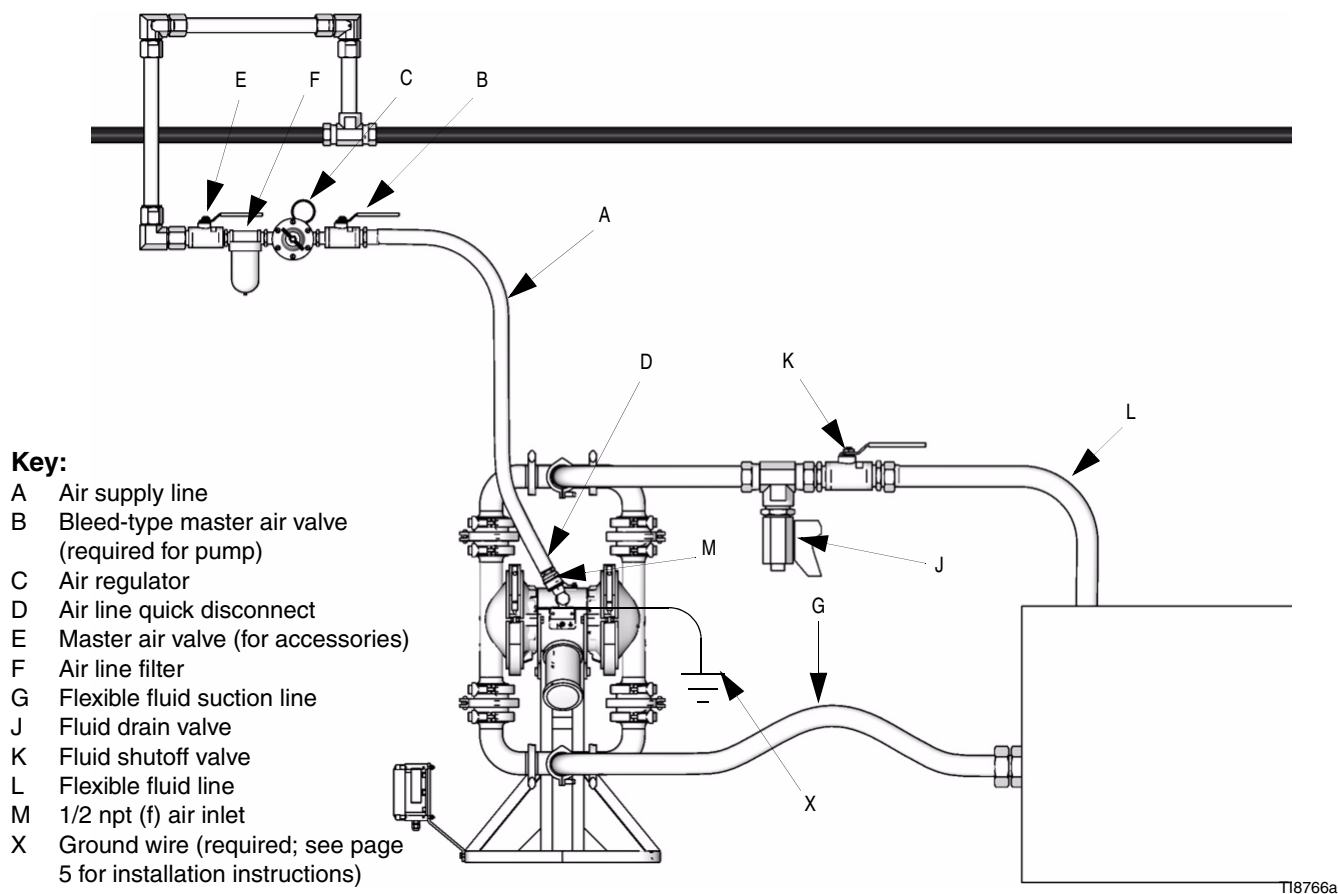

FIG. 3 Typical Floor-Mount Installation
- The typical installation shown in FIG. 3 is only a guide for selecting and installing system components. Contact your Graco distributor for assistance in planning a system to suit your needs.
A bleed-type master air valve (B) is required in the system to relieve air trapped between this valve and the pump. Trapped air can cause the pump to cycle unexpectedly, which could result in serious injury including splashing in the eyes or on the skin, injury from moving parts, or contamination from hazardous fluids. See FIG. 3.
1. Install the air line accessories as shown in FIG. 3. Mount these accessories on the wall or on a bracket. Be sure the air line supplying the accessories is grounded.
- a. Install an air regulator (C) and gauge to control the fluid pressure. The fluid outlet pressure will be the same as the setting of the air regulator.
- b. Locate one bleed-type master air valve (B) close to the pump and use it to relieve trapped air. Locate the other master air valve (E) upstream from all air line accessories and use it to isolate them during cleaning and repair.
- c. The air line filter (F) removes harmful dirt and moisture from the compressed air supply.
2. Install a grounded, flexible air hose (A) between the accessories and the 1/2 npt(f) pump air inlet (M). Use a minimum 3/8 in. (9.5 mm) ID air hose. Screw an air line quick disconnect coupler (D) onto the end of the air hose (A), and screw the mating fitting into the pump air inlet snugly.
A fluid drain valve (J) is required to relieve pressure in the hose if it is plugged. The drain valve reduces the risk of serious injury, including splashing in the eyes or on the skin, or contamination from hazardous fluids when relieving pressure. Install the valve close to the pump fluid outlet. See FIG. 3.
- Use flexible, grounded fluid hoses (L) where possible.
- Install a fluid drain valve (J) near the fluid outlet. See FIG. 3.
- Install a shutoff valve (K) in the fluid outlet line.